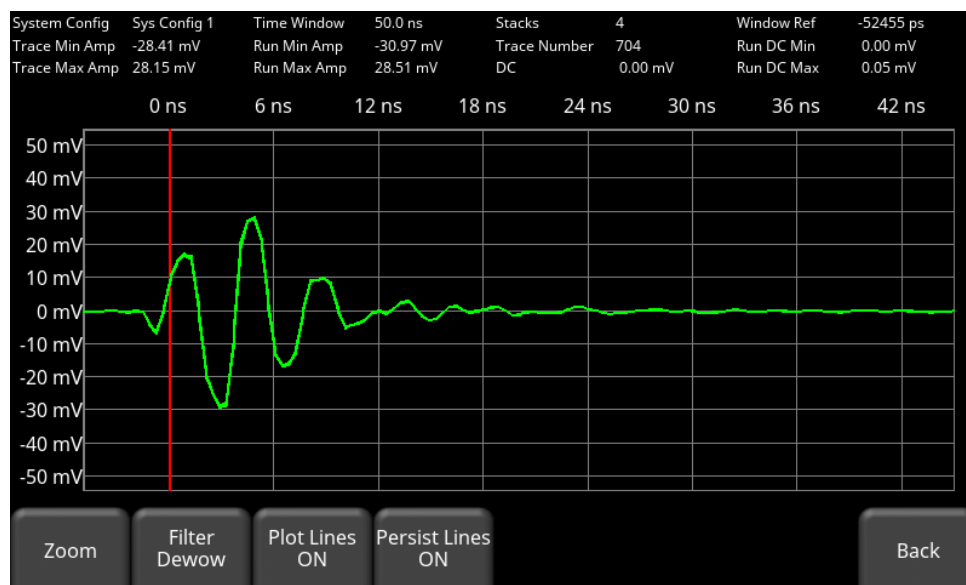

Figure 5-40: Persist Lines ON
- **Persist Lines** – When this is ON, the “cumulative” radar trace remains on the screen. This is essentially plotting one trace on top of the other every time the radar pulses (Figure 5-40). If this is OFF, only the current trace is displayed.